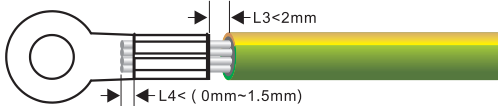

Figure 5.2 Crimping a cable (unit: mm)
**Step 2** Insert the exposed core wires into the crimping areas of the OT terminal and crimp them using hydraulic pliers, as shown in Figure 5.2.